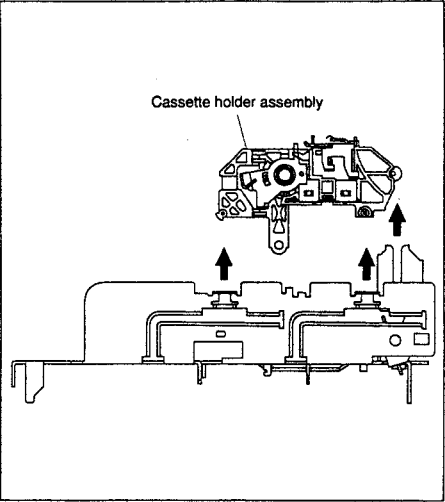
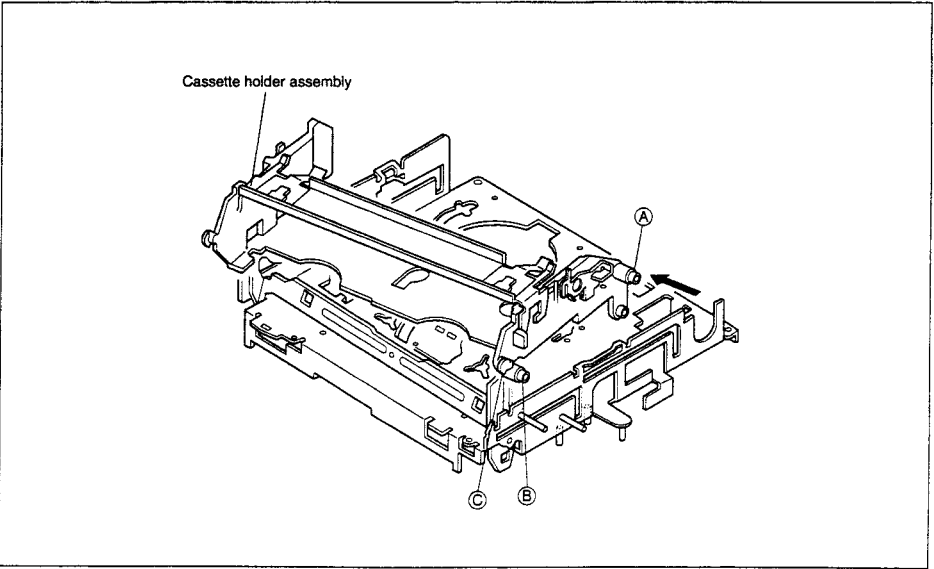

Fig. 2-2-5
Fig. 2-2-6
- (5) While holding the left side of the cassette holder, lift the cassette holder assembly so that the three legs on the left side are all released. Then pull the legs A and B on the right side out of the rail and also pull up the leg C. (See Fig.2-2-5, Fig.2-2-6)